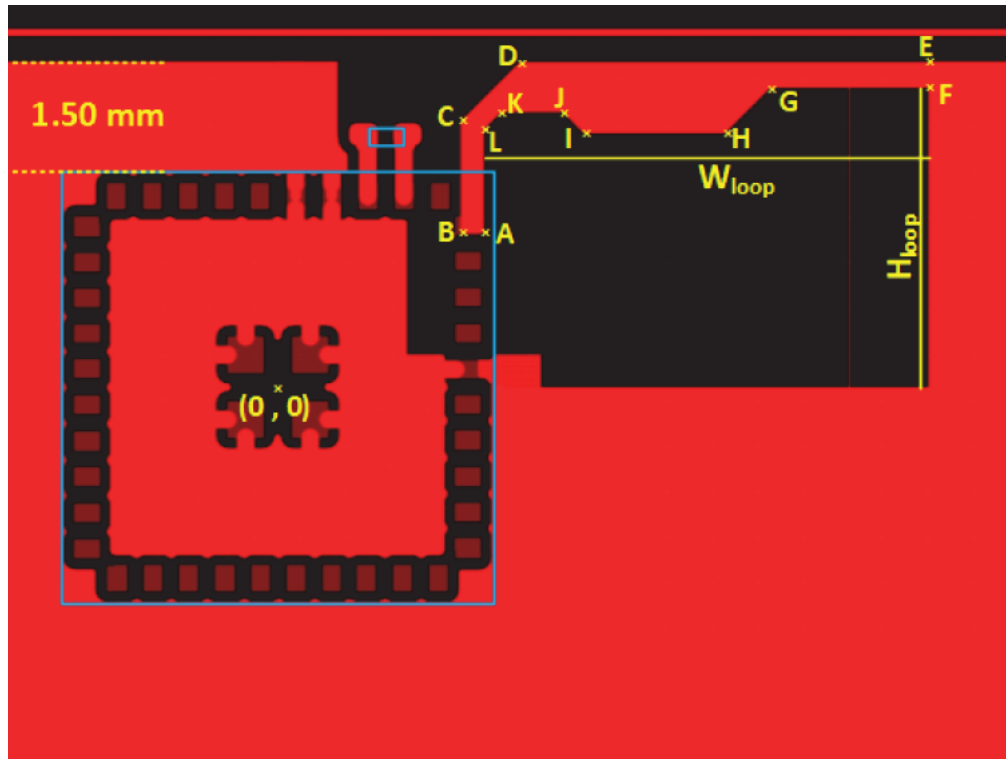

Figure 7.2. Antenna Layout With Coordinates
- Copy the exact antenna design from Figure 7.2 Antenna Layout With Coordinates on page 33 with the values for coordinates A to L given in Table 7.1 Antenna Polygon Coordinates, Referenced to Center of BGM220S on page 33.